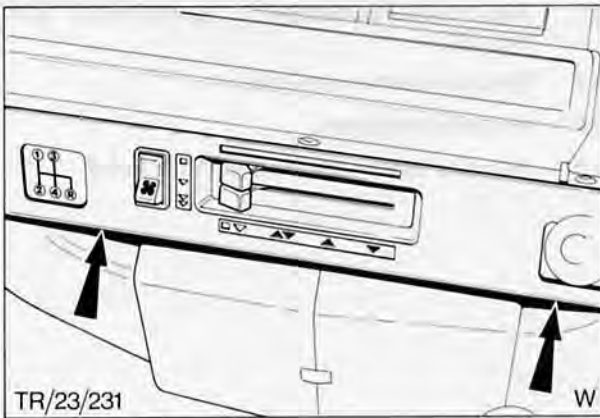

Fig. 91. Heater panel securing screws
5. Remove two screws and detach heater control panel, Fig. 91.
10. Refit heater control panel, Fig. 91.